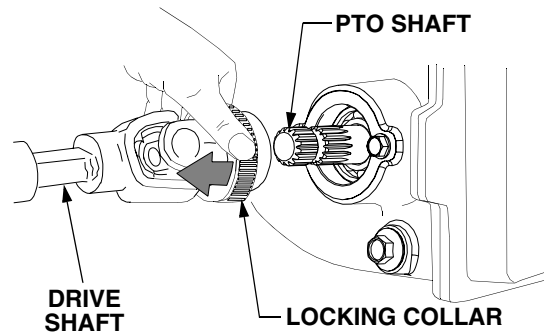

Figure 60
- Compress the locking collar and disconnect the deck drive shaft from the tractor PTO shaft (See Figure 60). Pivot the drive shaft to the side as far as possible.
- Compress the locking collar of the drive shaft and slide the drive shaft fully onto the PTO shaft protruding from the front of the transmission housing. Release the collar and check to ensure the drive shaft is locked onto the PTO shaft. Refer to Figure 60.